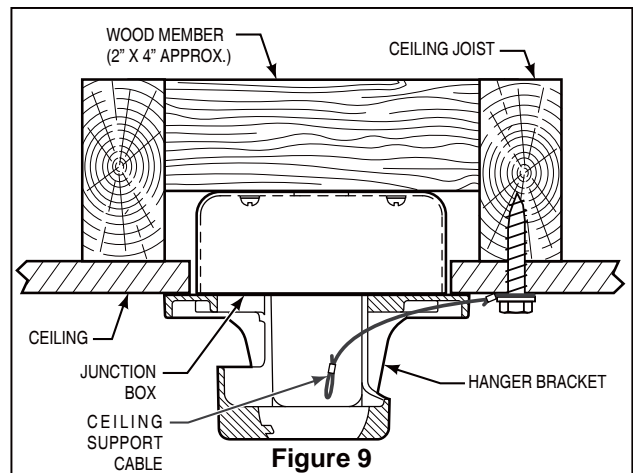

Figure 9
- ☐ 1. Securely attach the hanger bracket to the outlet box using the outlet box screws and washers supplied with the outlet box. (Figure 9)
- ☐ 2. Drill a $\frac{1}{4}$ " pilot hole into the building structure to prevent splitting or cracking with installation of the lag bolt. Using the $\frac{3}{8}$ " x 2" lag bolt and flat washer, attach safety cable to ceiling joist or wood structural member. The lag bolt will pass through the flat washer, safety cable loop, and into the building structure. (Figure 9)
NOTE: Ceiling support cable cannot be secured to junction box only, it must be directly secured to ceiling joist or structural member using the $\frac{3}{8}$ " x 2" lag bolt and flat washer. (Figure 9)